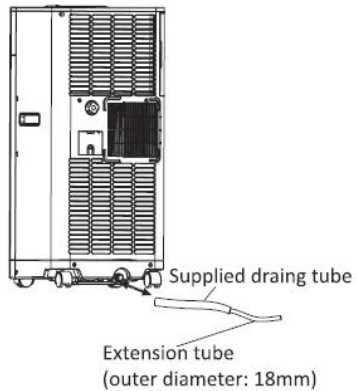

FIG.15
4. The supplied drain tube may be extended by adding an extension tube and using a suitable connector. (FIG.15)